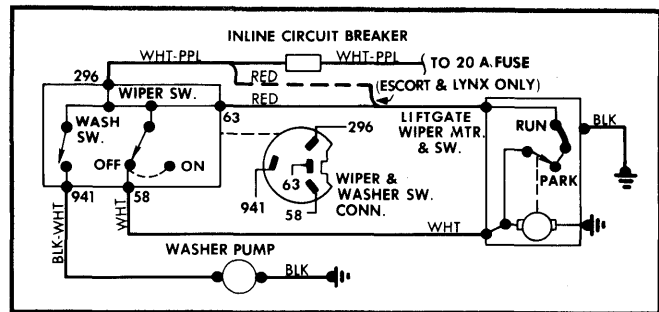

Fig. 1 Ford Motor Co. Rear Wiper/Washer System Wiring Diagram
**3)** Use an ohmmeter to check switch terminal continuity. With switch "OFF", continuity should exist between terminals 296 and 63. With switch "ON", continuity should exist between terminals 296, 63 and 58. With switch on "WASH", continuity should exist between 296, 63 and 941. See Fig. 1.